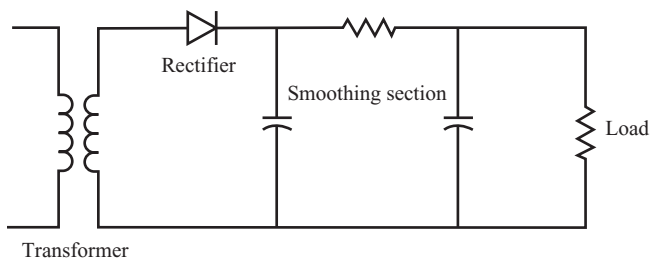

FIGURE 11.31
14 A basic power supply circuit can be divided into four sections, as shown in Figure 11.31.
- Will the power supply circuit shown in Figure 11.31 result in full- or half-wave rectification? _____
- What type of output will the rectifier section of the power supply circuit shown in Figure 11.31 produce? _____